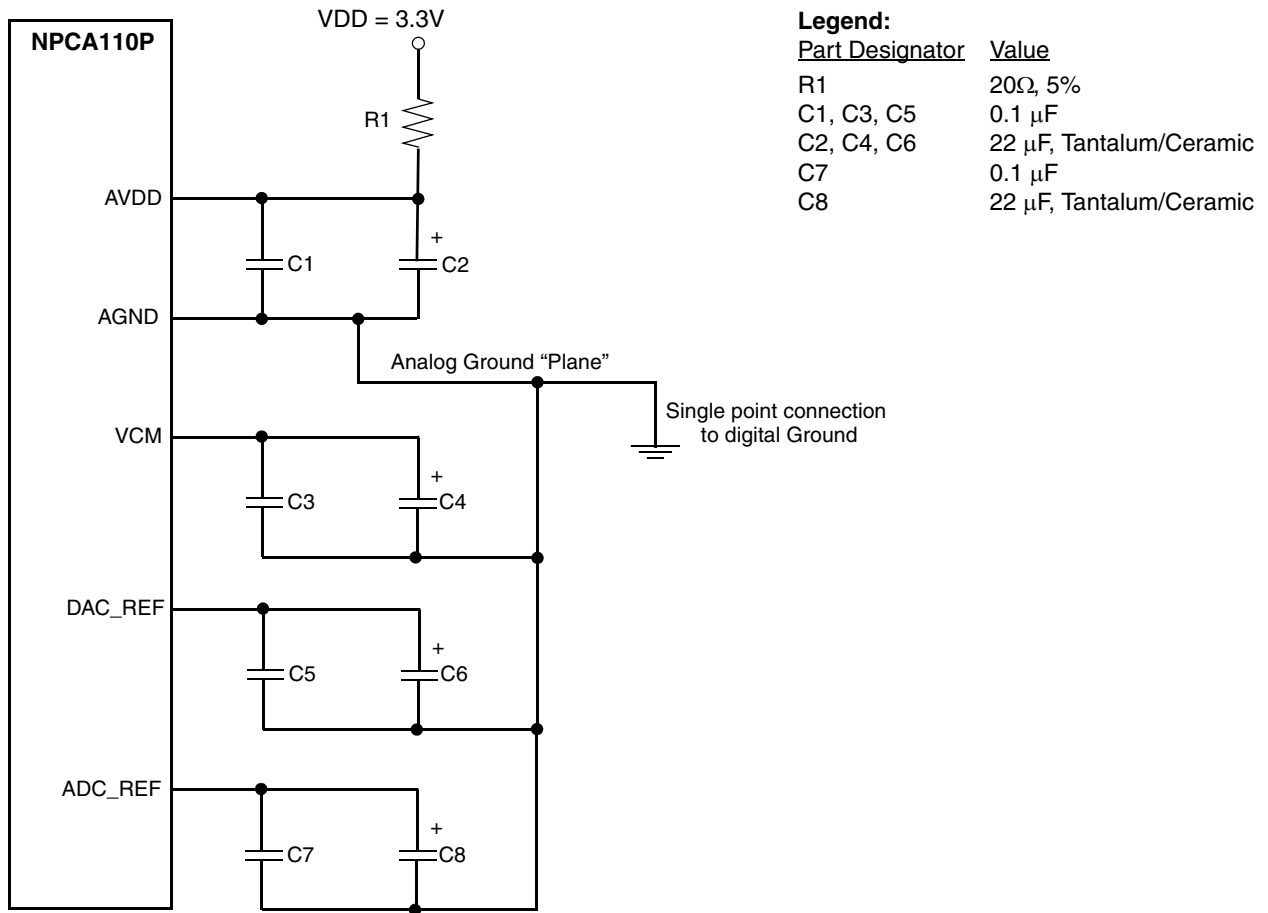

Figure 4. Recommended CODEC Power Connection Diagram
**Note:** Codec power connections are found in Figure 4 on page 15